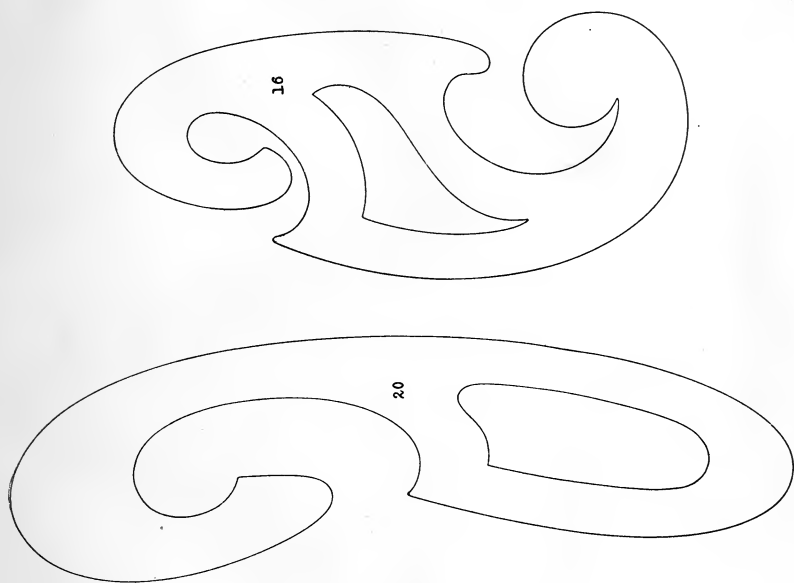

Fig. 9. Irregular Curves.
7. **IRREGULAR CURVES OR SWEEPS.** These are used for drawing smooth curves which are not parts of a circle, using either pencil or ruling pen. The two types of curves most useful are shown in Fig. 9.